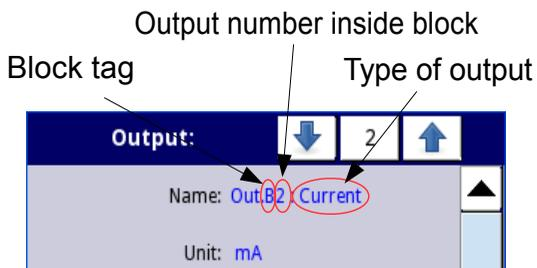

Fig. 7.76. Description of **Name** parameter in **Built-in outputs** menu
- **Name** - each output already has a name given by the device and the user cannot change it, for the description of the **Name** parameter see **Fig. 7.76**,
- **Name** – each output already has a name given by the device and the user cannot change it - see **Fig. 7.76**,
- **Name** – each output already has a name given by the device and the user cannot change it - see Fig. 7.76,